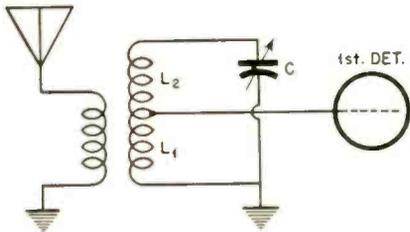
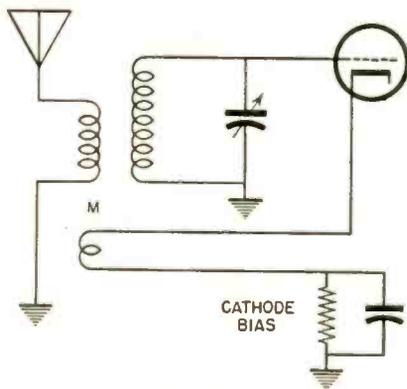

Figure 4
Figure 5
One of these is illustrated in *Fig. 4*. In this circuit the first detector grid is
*Fig. 5* illustrates another image suppression circuit which has been quite popular. In general, this circuit is not as effective as the circuit of *Fig. 4*. In this arrangement the signal frequency, the oscillator frequency, and the image frequency appear in the feedback cathode circuit coil, and are fed back into the antenna circuit. The voltage transferred to the antenna primary will be greater for the higher frequencies than for the lower signal frequency. Consequently more of the image frequency will be fed back than signal frequency. All the voltages thus fed back are phased so that they will subtract from the voltage induced in the antenna. As a result, there is some reduction of signal voltage which will reduce the signal to first circuit noise ratio. This did not occur in the arrangement of *Fig. 4*, where signal and thermal noise are reduced in like amount and their ratio is unaffected. Probably the greatest disadvantage of the circuit of *Fig. 5* lies in the practical difficulty of adjusting the circuit constants to function properly over the whole tuning band. This results partly from the fact that the selectivity of the antenna tuned circuit decreases as the frequency increases and partly from the fact that the phase angle of the tuned circuit varies more rapidly than the attenuation. This is illustrated by *Fig. 6*.
when the phase angle is 45° the signal amplitude is still seven-tenths that at resonance. This illustrates the practical difficulties of keeping the circuits of Fig. 5 properly phased over a wide frequency band without manual adjustment.